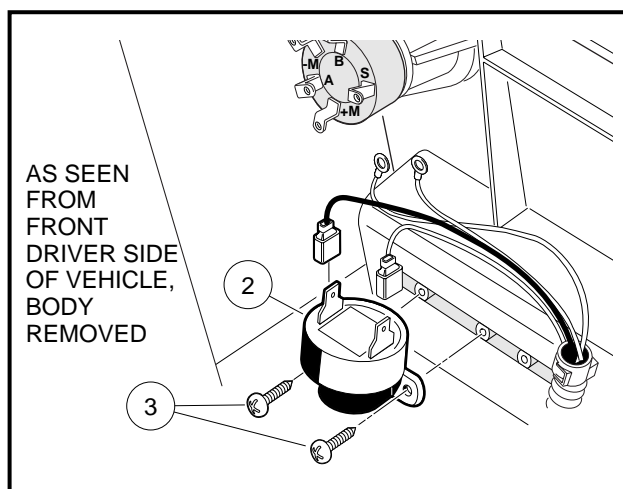

Figure 12-21 Front Reverse Warning Buzzer
3. Disconnect the wires from the reverse warning buzzer (2). Do not allow wires to touch (**Figure 12-21, Page 12-20**).
4. Remove the mounting screws (3) securing the buzzer to the center dash.
1. Install the screws (3) through the buzzer bracket tabs and tighten to 3.5 in-lb (0.40 N·m) (**Figure 12-21, Page 12-20**).